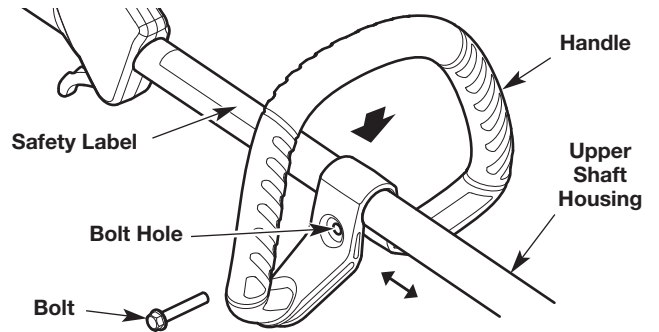

Fig. 6
1. Push the handle down onto the upper shaft housing (Fig. 6). Make sure the bolt hole faces to the right (Fig. 6).
2. Insert the bolt into the bolt hole and push it through (Fig. 6). Tighten the bolt with a flat-head screwdriver, but do not tighten the bolt completely.
3. Hold the unit in the operating position (Fig. 15). Move the handle up or down the upper shaft housing to a comfortable location (Fig. 6). Make sure the handle is positioned beyond the end of the safety label (Fig. 6).
1. Loosen the bolt with a flat-head screwdriver (Fig. 6).
2. Hold the unit in the operating position (Fig. 15). Move the handle up or down the upper shaft housing to a comfortable location (Fig. 6). Make sure the handle is positioned beyond the end of the safety label (Fig. 6).